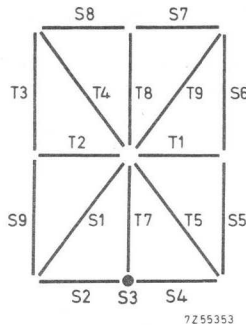

Fig. 1 Starburst pattern segments
For a starburst character, 17 activating signals are used for the 17 segments of the pattern. Since only 9 output lines are available in the FDR106Z1, the complete bit pattern for each character must be stored in two 9-bit words; thus a total of 128 words are used for 64 characters. Fig. 1 shows the segments controlled by the output bits of the first (S) and second (T) word for each character. The S word contains 9 segment signals and the T word 8. The ninth bit of ROM T(T6) is not used. A logic 1 output signal (nominally -12 V) represents an activated (ON) segment signal. The starburst character generation function is selected by setting address bit A₈ to 0 V (V_{P0} or HIGH signals). S words are selected by setting address bit A₅ to 0 V (HIGH) and T words by setting address bit A₅ to -10 V (LOW).